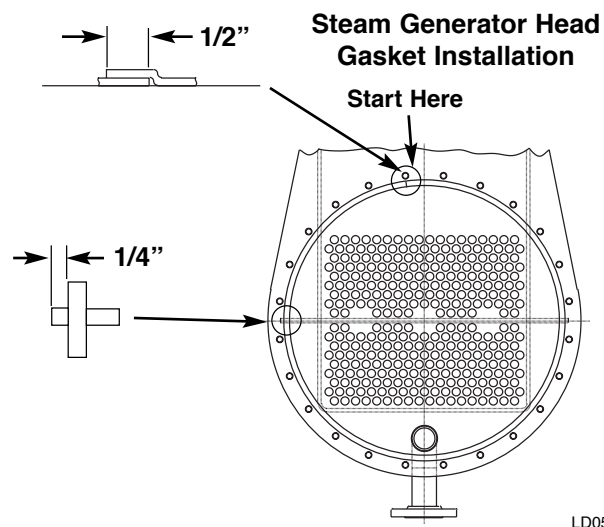

FIG. 48 – NUT TORQUING PATTERN
7. Using four (4) incremental steps, torque the nuts using a star (crisscross) pattern. In other words, first torque the nuts to 20 ft/lb, then 40 ft/lb, then 60 ft/lb and finally 80 ft/lb (refer to Figure 48).